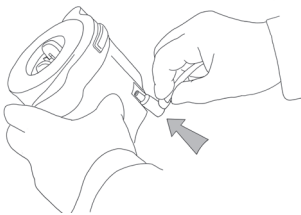

Figure 3
2. Connect power supply to rear of Centrifuge (Figure 3).